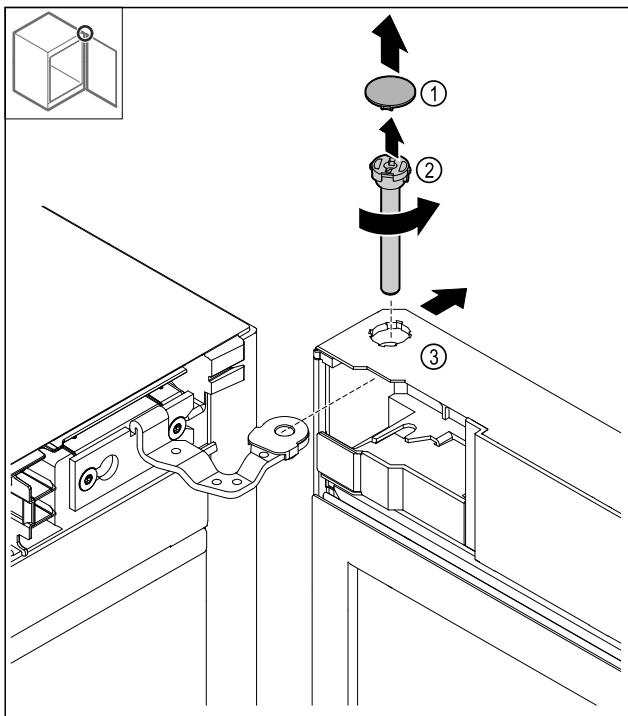

Fig. 19
- ▶ Removing the cover Fig. 19 (1).
- ▶ Loosen the bolt Fig. 19 (2) anti-clockwise and pull it out.
- ▶ Tilt the door Fig. 19 (3) slightly.